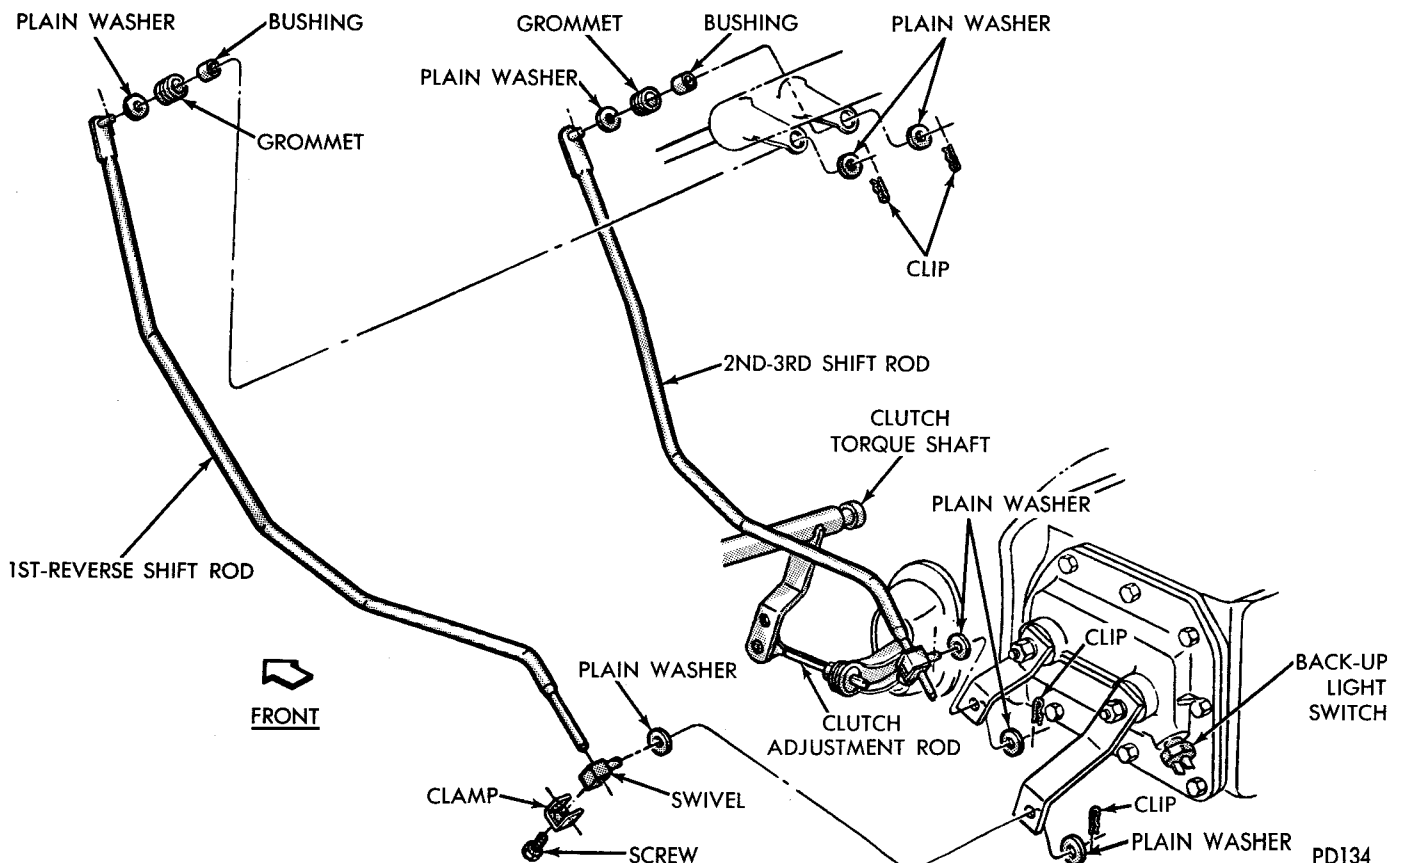
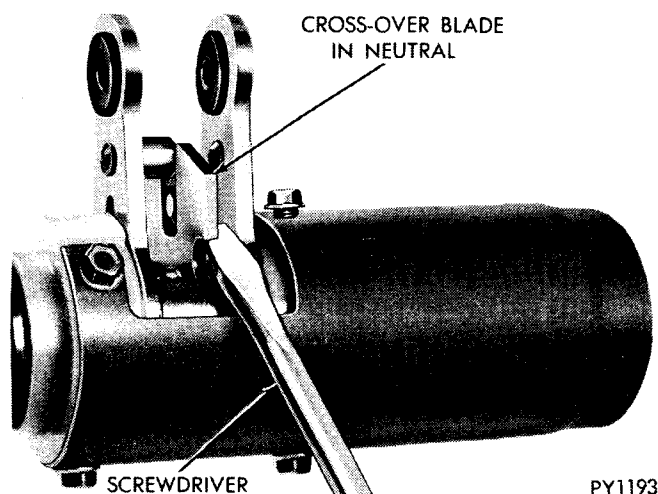

Fig. 43—Gearshift Linkage
Fig. 44—Holding Cross-Over Blade in Neutral Position
(1) Remove both shift rod swivels from transmission shift levers (Fig. 43).
(2) Make sure transmission shift levers are in neutral (middle detent) position.
(3) Move shift lever to line up locating slots in bottom of steering column shift housing and bearing housing.
(4) Place screwdriver or suitable tool between cross-over blade and 2nd-3rd lever at steering column so that both lever pins are engaged by cross-over blade (Fig. 44).
(5) Set 1st-Reverse lever on transmission to reverse position (rotate clockwise).
(6) Adjust 1st-reverse rod swivel by loosening clamp bolt and sliding swivel along rod so it will enter 1st-reverse lever at transmission. Install washers and clip. Tighten swivel bolt to 100 inch-pounds.
(7) Remove gearshift housing locating tool, and shift into neutral position.
(8) Adjust 2nd-3rd rod swivel by loosening clamp bolt and sliding swivel along rod so it will enter 2nd-3rd lever at transmission. Install washers and clip. Tighten swivel bolt to 100 inch-pounds.
(9) Remove tool from cross-over blade at steering column and shift through all gears to check adjustment and cross-over smoothness.